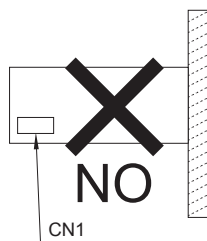

Fig. 4.4 Installation method 2
- Avoid installation method 2 as shown in Fig. 4.4, which can cause stress on the mounting holes.